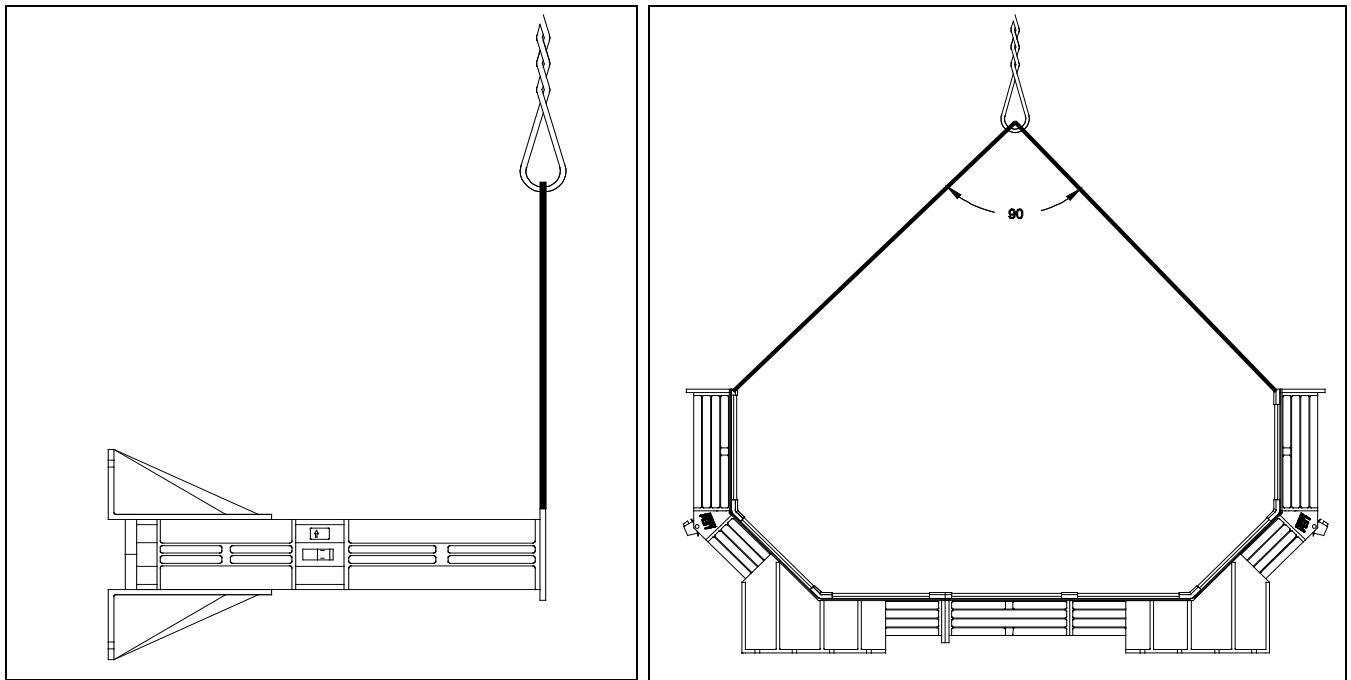

Figure 5.3. Setting The Lower Head Half Upright.
- 3.) To set the lower head half upright, secure the mounting straps under the two fastening flanges as shown in the Figure 5.3.